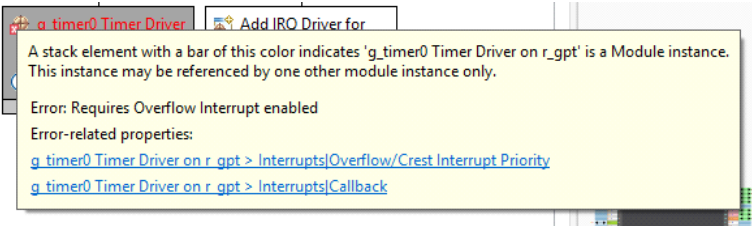

Figure 9. Pop-Up Help On GPT Error
**Hint:** The HAL/Common Stacks blocks remain red until all the configurations items are satisfied. Hovering on the red X does pop-up the error that is in the particular block. In this case, the GPT trigger for measurement is red. See Figure 9 for an example of pop-up help.